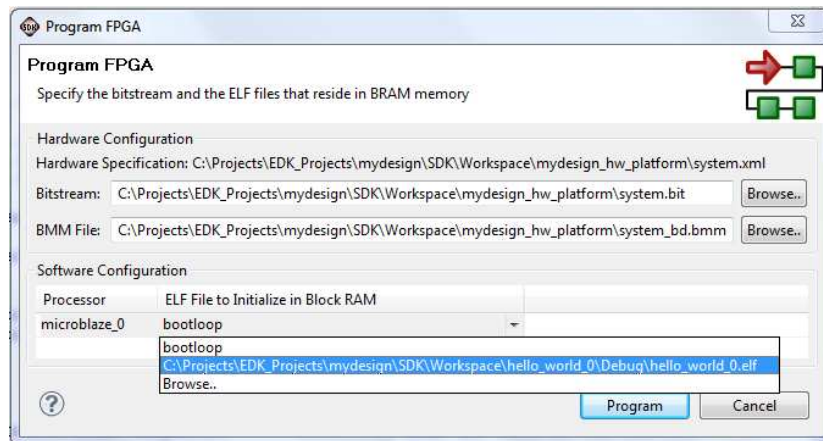

Figure 28. Program FPGA (Step 9)
Step 9: The final step is to download the design on FPGA. Select the menu item **“Xilinx Tools”** from the menu bar and then select **“Program FPGA”**. The **“Program FPGA”** window of Figure 28 will appear asking you to select the executable (ELF) file to be used. Beside **“microblaze_0”** select the second option **“..\mydesign\SDK\Workspace\hello_world_0\Debug\hello_world_0.elf”**, then press **“Program”**. This will start the programming process on the board. Of course you need to connect the board at this point for the programming process to complete. As soon as the programming process complete the system will start working and you will notice the output of the system.